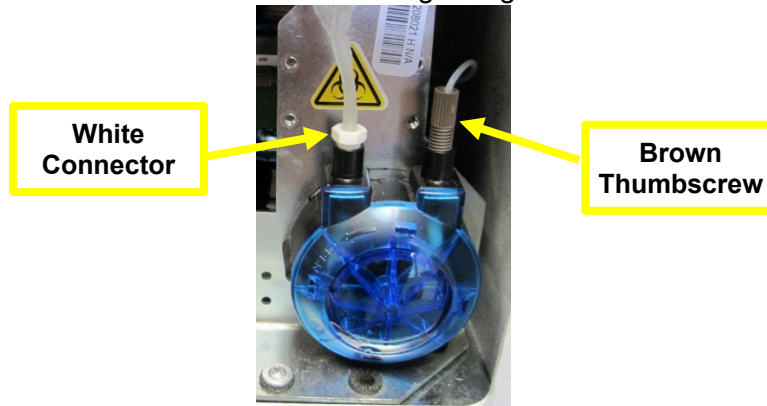

Figure 14
- 4.1. Remove the tubing from the white connector on the left side of the peristaltic pump and unscrew the brown thumbscrew on the right. Figure 14